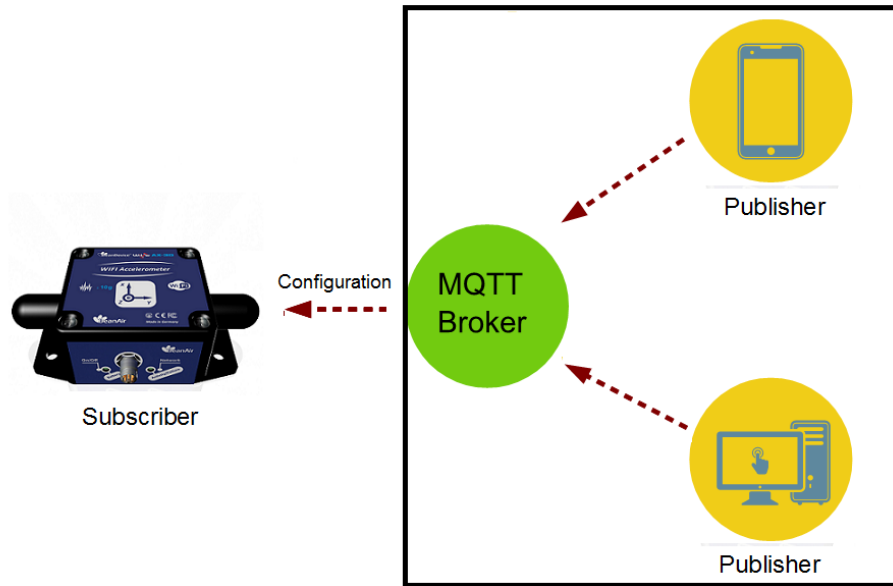

Figure 3: BeanDevice Configuration over MQTT
- Figure 3: BeanDevice Configuration over MQTT 9